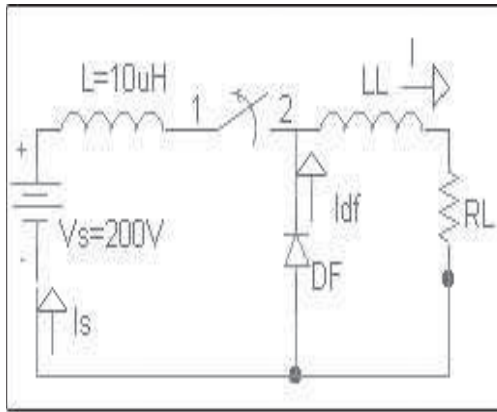

FIGURE 2.9 A simple switch mode power supply with freewheeling diode.
Figure 2.9 shows a simple switch mode power supply. The switch (1-2) is closed at  $t = 0$  S. When the switch is open, a freewheeling current  $I_F = 20$  A flows through the load (RL), freewheeling diode (DF), and the large load circuit inductance (LL). The diode reverse recovery current is 20 A and it then